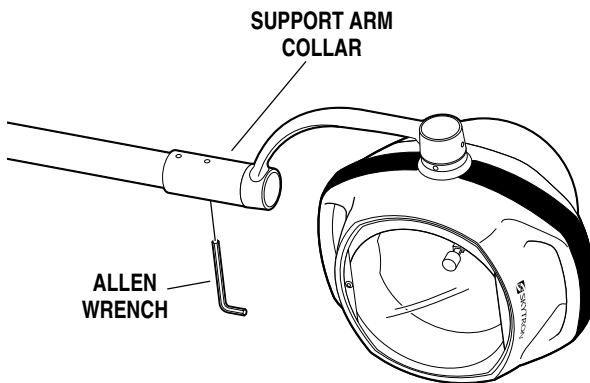

Figure 3-3. Lighthead Roll Adjustment
1. Locate the adjustment hole in the bottom of the support arm collar. See figure 3-3.